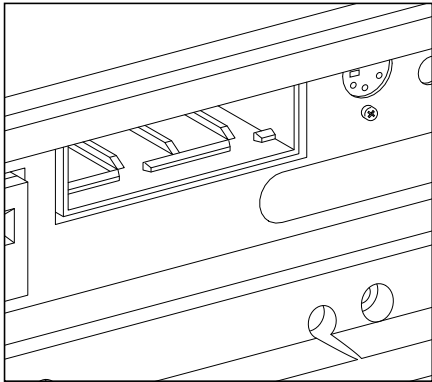

Figure 1
- 1- Open the access door where the vertical keypad is located (Figure 1)